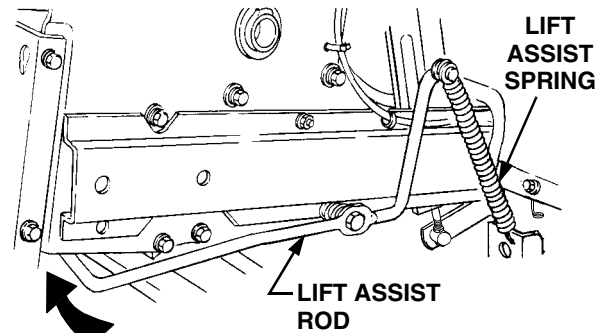

Figure 30
4. Tension the spring by pushing downward and then inward on the rear of the lift assist rod, so that the flange at the rearward end of the rod is inside the tractor frame (See Figure 30).